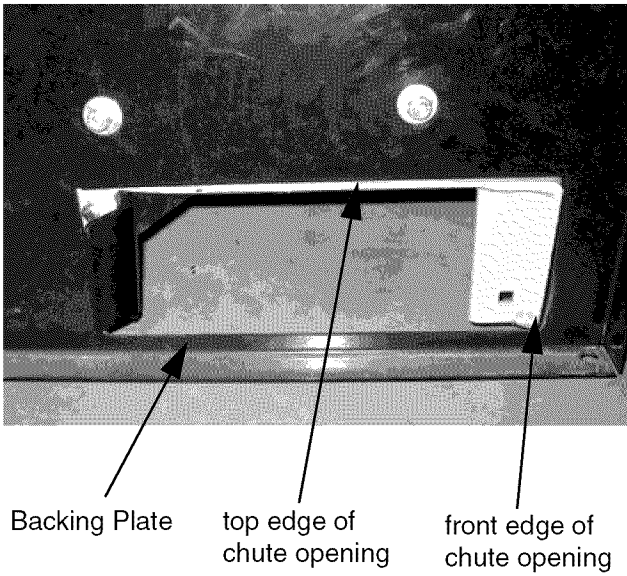

Figure 11
11. Adjust Backing Plate [F] so that it is flush against front part and top part of chute opening as shown below in Figure 11 and tighten nuts on Chute Mounting Bracket [G].